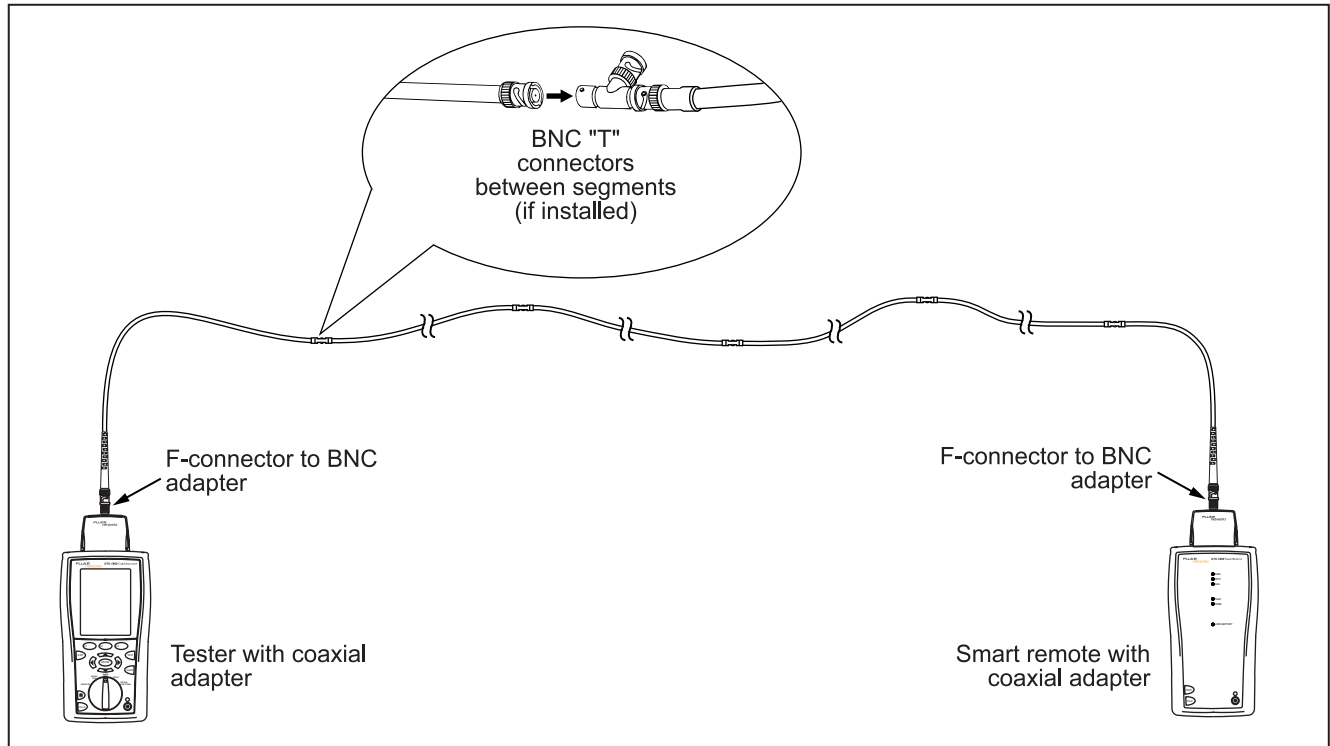
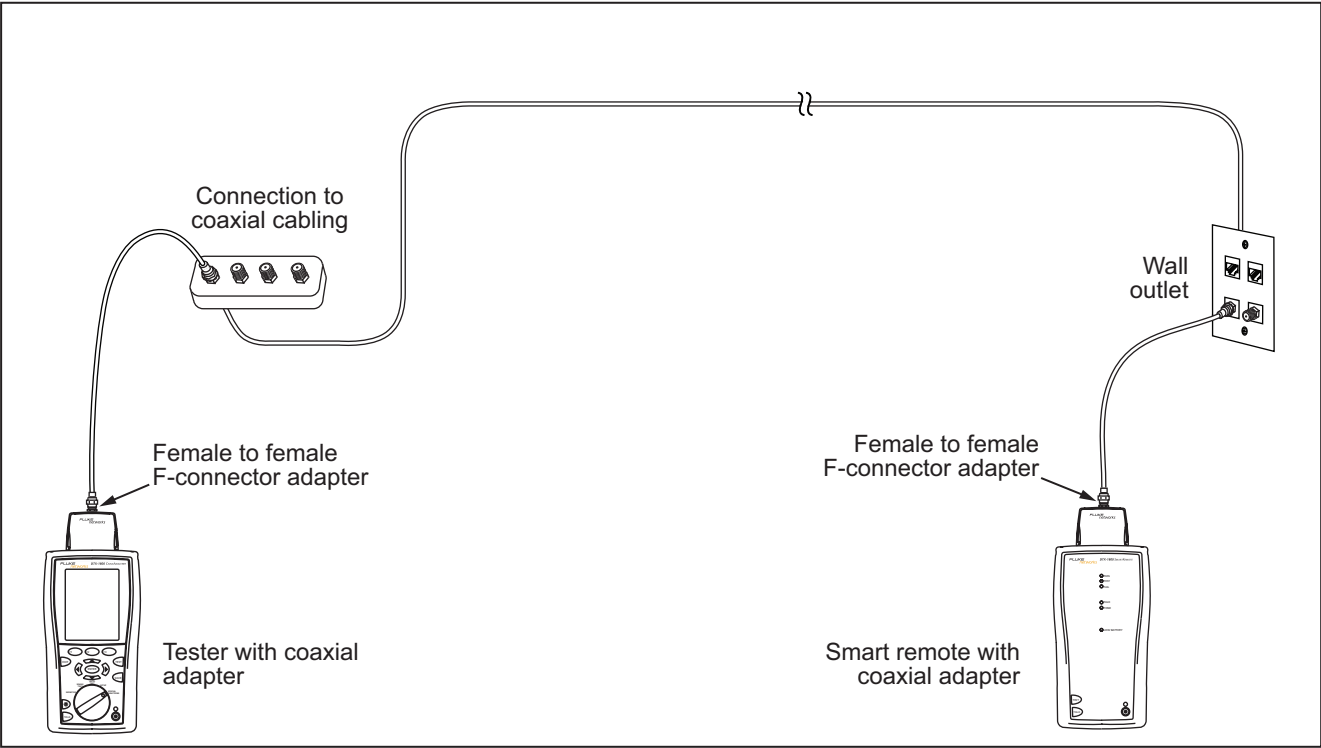

Figure 5-3. Coaxial Network Cabling Test Connections
Figure 5-4. Coaxial Video Cabling Test Connections
- ① Verify that the settings listed in Table 5-1 are appropriate.
- ② Attach coaxial adapters appropriate to the tester and the smart remote.
- ③ Turn the rotary switch to **AUTOTEST** and turn on the smart remote. Connect to the cabling, as shown in Figure 5-3 for network cabling or Figure 5-4 for video cabling.